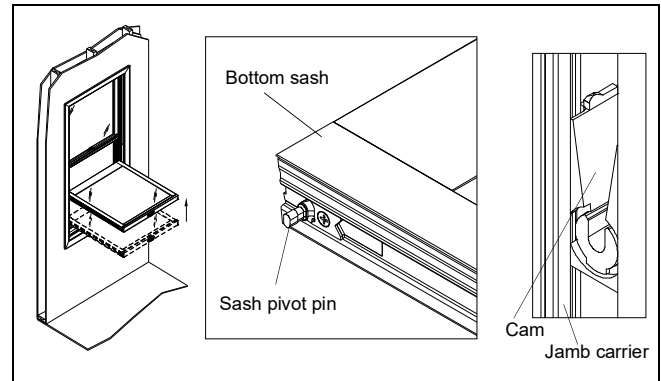

Figure 24 Interior view
24. Ease top of sash toward you to a horizontal position (flat). Lift both sides of the sash upward 2"-3" (51-76) (raising pivot pins out of each clutch). See figure 24.